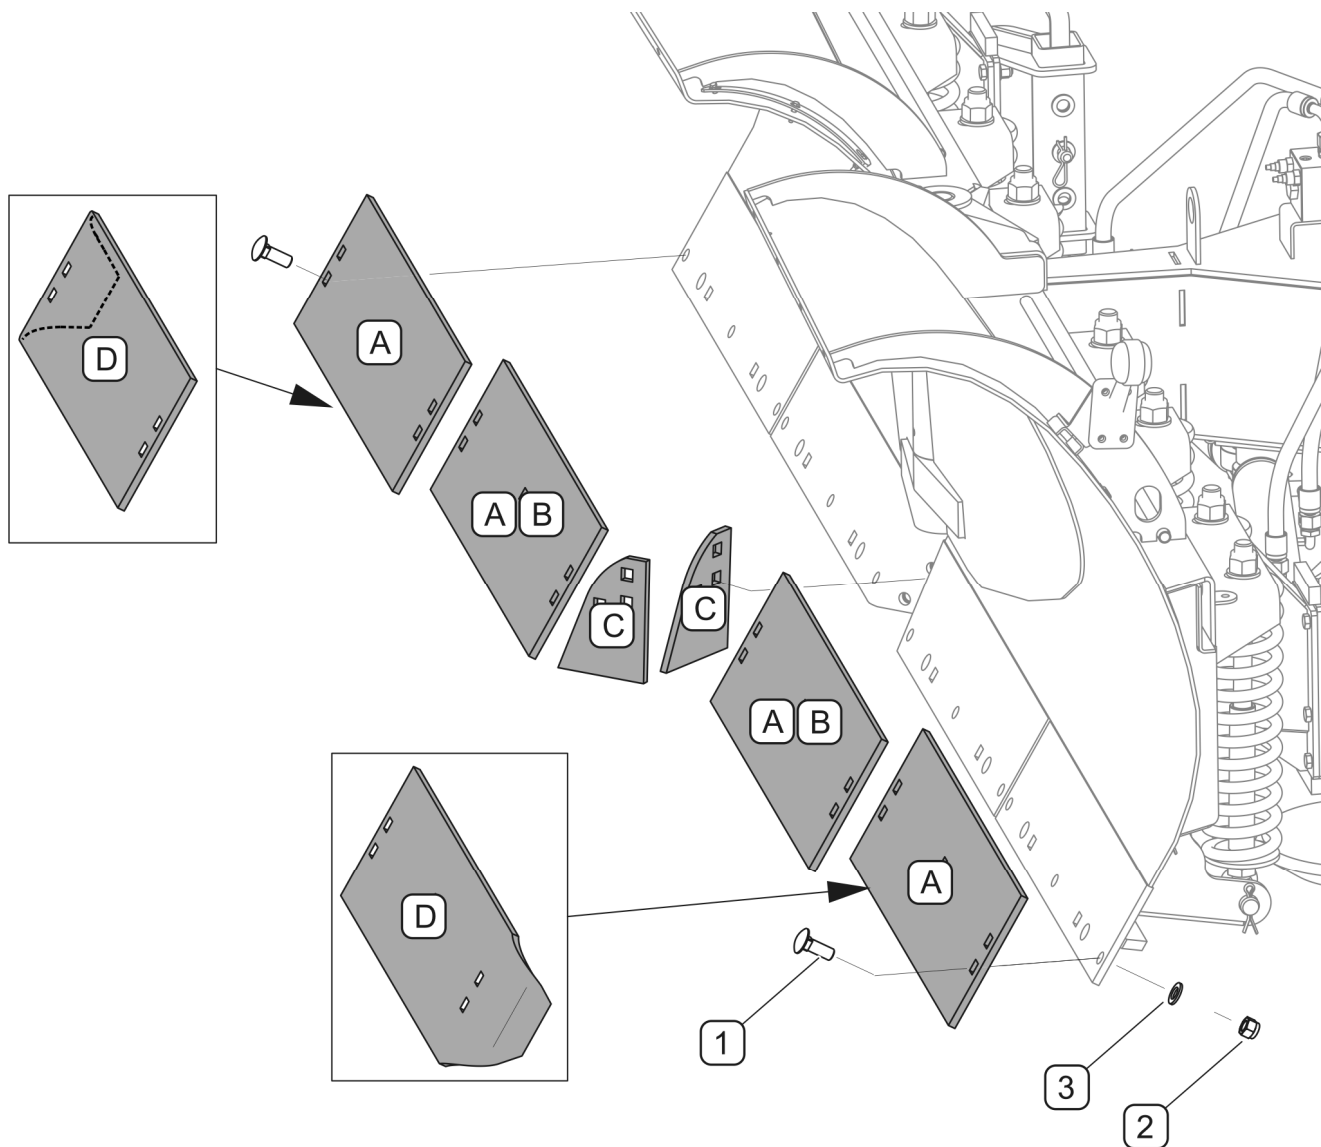

FIGURE 5.1 Replacement of steel blades
Steel blades (FIGURE 5.1) consist of segments. To remove a blade segment, unscrew proper nuts (4), remove bolts (3) that fix the blade segment to the mouldboard. Damaged blade should be replaced. The blades that are worn on one side can be turned on the other side and reused. List of steel blades is shown in (TABLE 5.1).